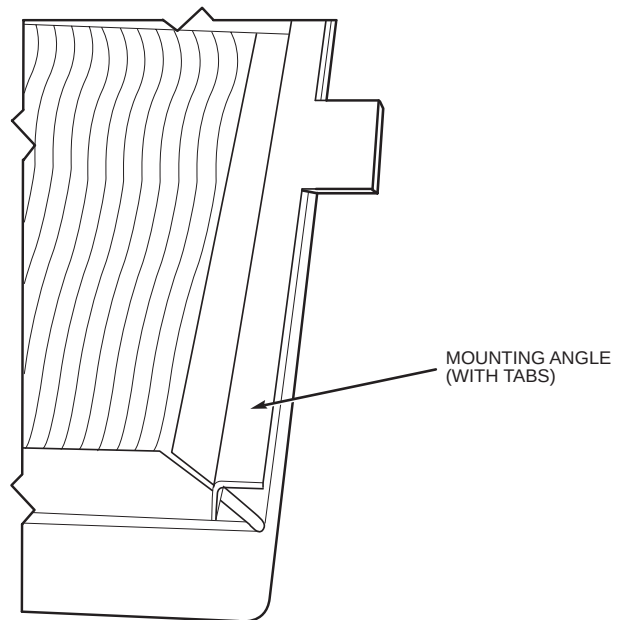

Fig. 33 — Mounting Angle (With Tabs) Attached to Filter Track Assembly
15. Attach remaining mounting angle (with tabs) to other end of the filter track with no. 10 screws provided. See Fig. 33.